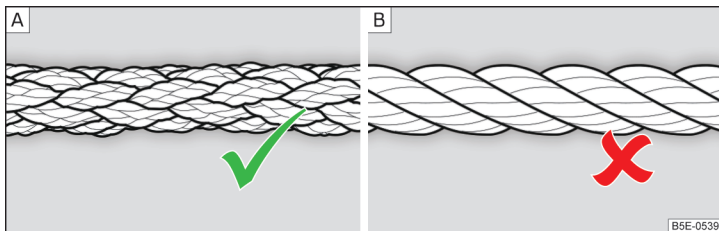

Fig. 140 Braided tow rope / Spiral tow rope
For towing a braided tow rope is to be used » Fig. 140- [A].
- For towing no spiral tow rope is to be used » Fig. 140- [B], the towing eye may unscrew out of the vehicle - there is a risk of accidents.